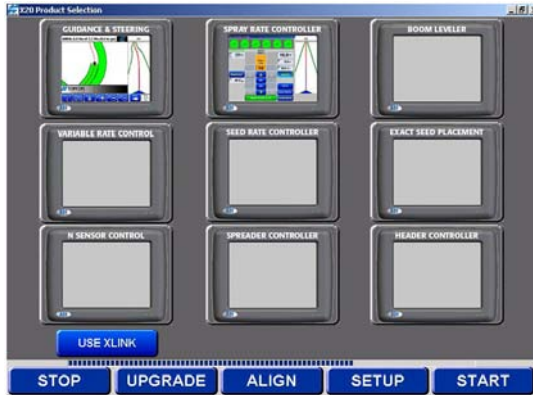

Figure 11-1. Product Selection Screen
2. On the *Product Selection* screen (Figure 11-1) select **Guidance** and **Spray Rate Controller**